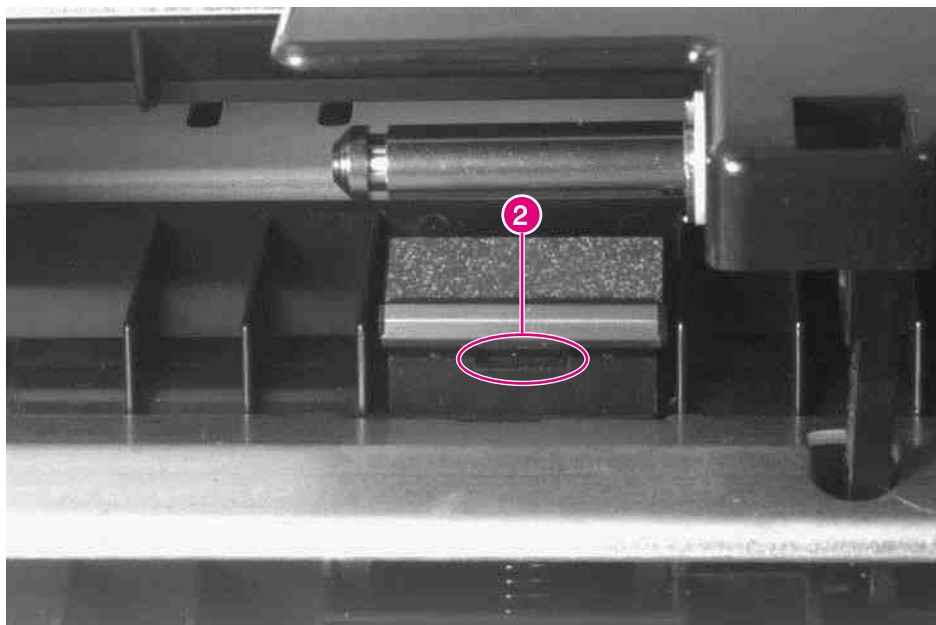

Figure 6-57 Tray 1 Separation Pad
- 2 Insert a flat-bladed screwdriver into the slot (figure 6-57, callout 2), and carefully pry the separation pad upwards out of its retaining notches.